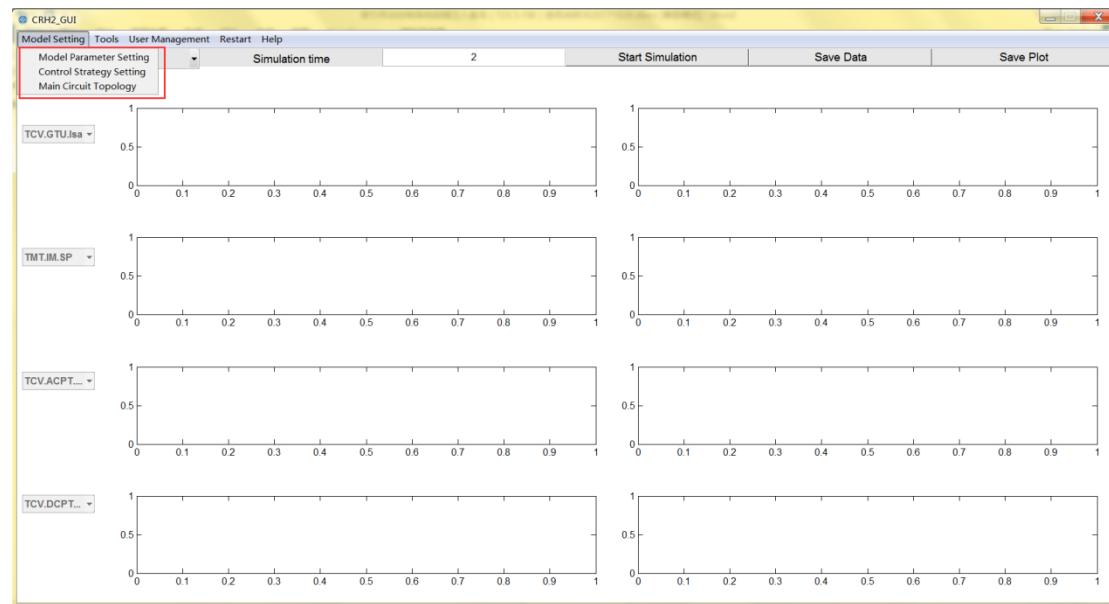

Fig. 11 Model setting
- 1) Click the ‘Model Setting’ drop-down menu in the main menu bar, then it will show the ‘Model Parameter Setting’, ‘Control Strategy Setting’ and ‘Main Circuit Topology’ options as shown in Fig. 11.